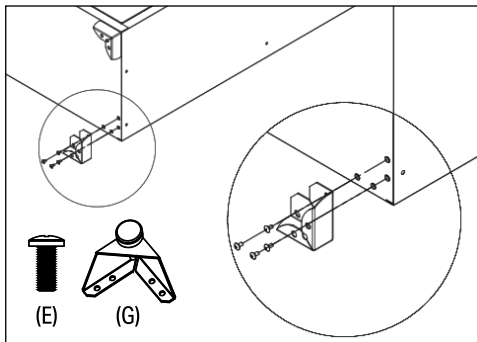

Fig. 4
7.4 Fitting the Tall Cabinet (1) Feet (Figs.4 – 5)